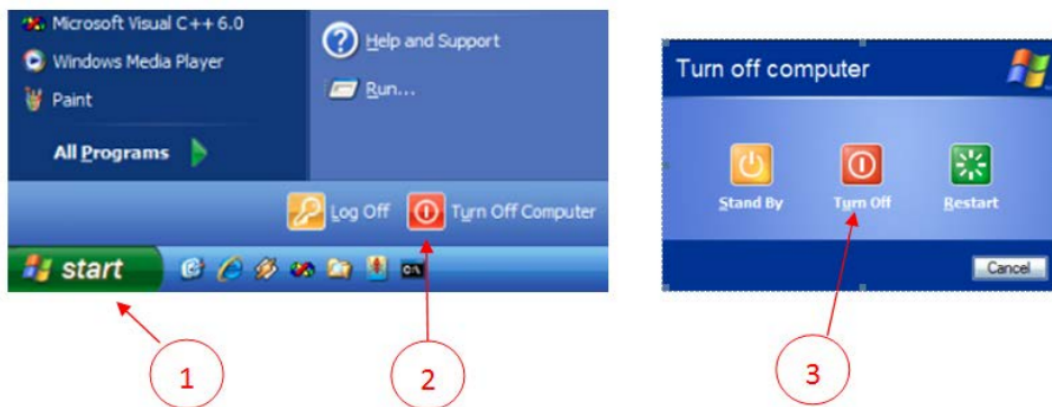

Figure 6: Terminating Windows XP and Powering off the IBM PC
6.2.1. Using the mouse, left-click on the Windows/XT green START rectangle at the bottom left of the screen (see Figure 6). A prompt will be displayed (2). Left-click on "Turn Off Computer". Another prompt will be displayed (3). Again, left-click on "Turn Off". At this point the IBM PC should power off, and the green light at the center of the PC cabinet should turn off. The screen may display something indicating it has lost connection to the IBM PC computer.